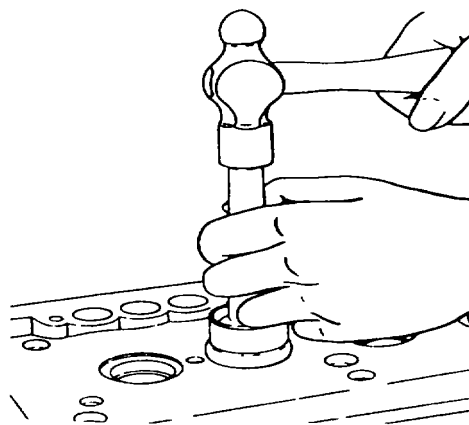

Figure 4-21. Valve Seat Insert, Installation.
- (24) Refer to figure 4-21 and make sure the valve seat counterbore is clean.
- (25) Immerse the cylinder head for at least thirty minutes in water heated to 180-200°F (82-93°C).
- (26) Place the cylinder head bottom side up.
- (27) Place an insert in the counterbore valve seat side up.
- (28) Drive the seat into the cylinder head with the valve seat installation tool until it seats solidly in the cylinder head.